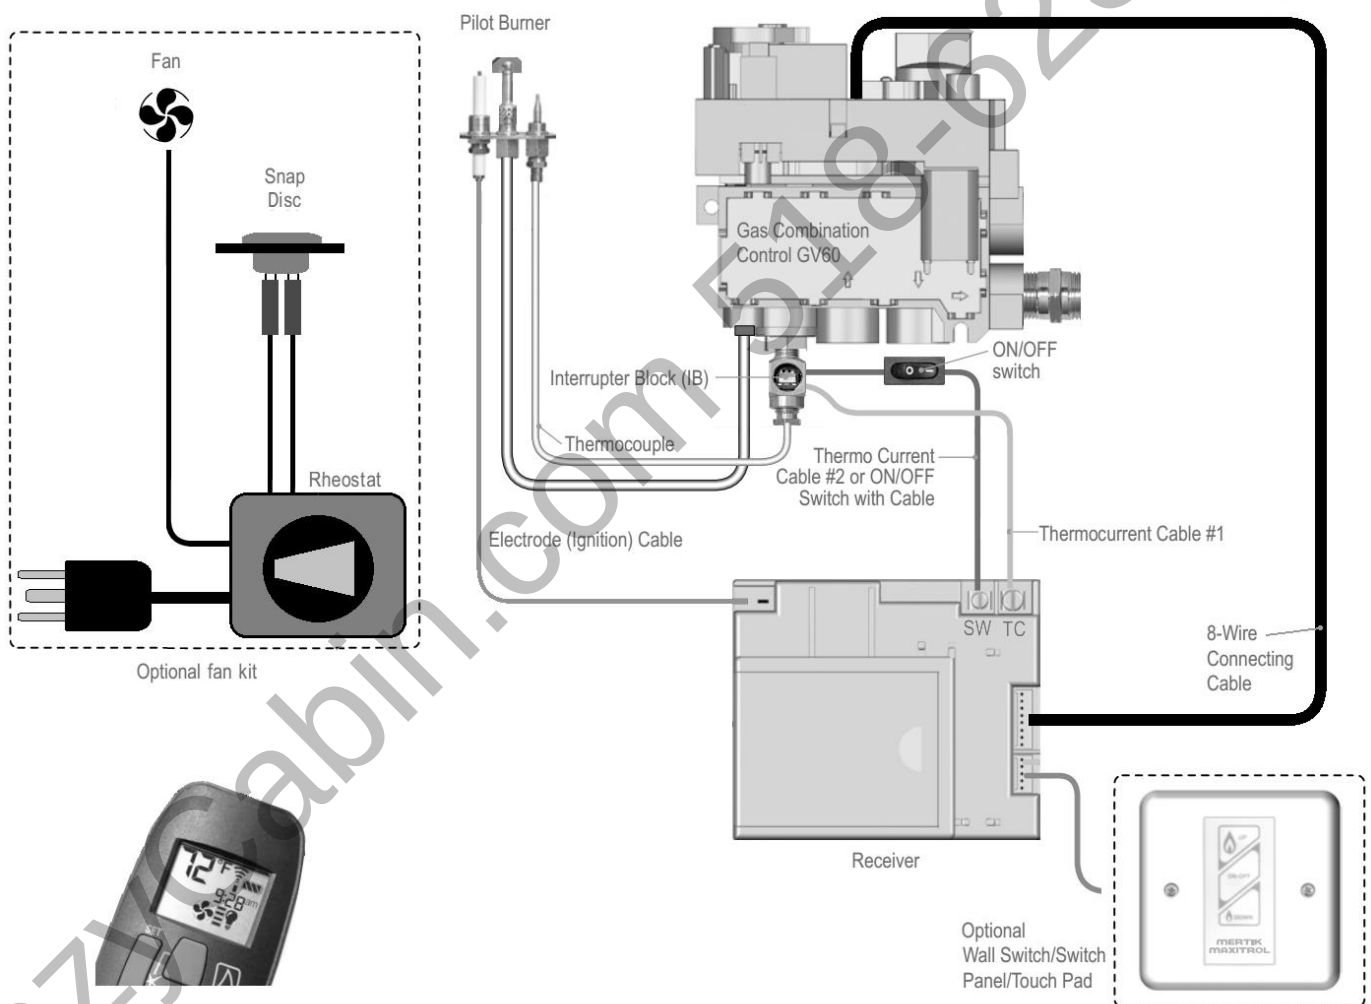

Figure 15 – Champlain 8302 Wiring Diagram
(See figure 15, page 17)
1. Remove orange ignition wire from Control module and insert onto Piezo Ignitor Connection on valve top (see figures 15 and 19).